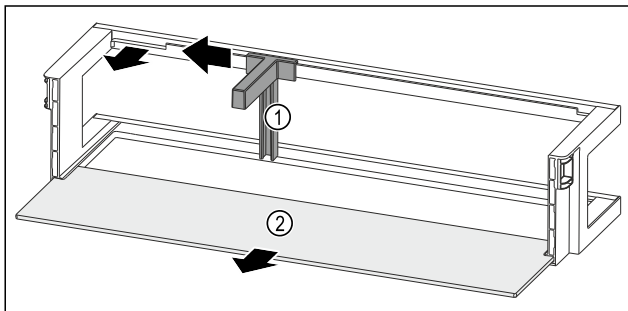

Fig. 93 Door rack with bottle holder and shelf
- Slide the bottle holder *Fig. 93 (1)* to the side as far as the recess.
- Remove the bottle holder *Fig. 93 (1)*.
- Remove the shelf *Fig. 93 (2)*.